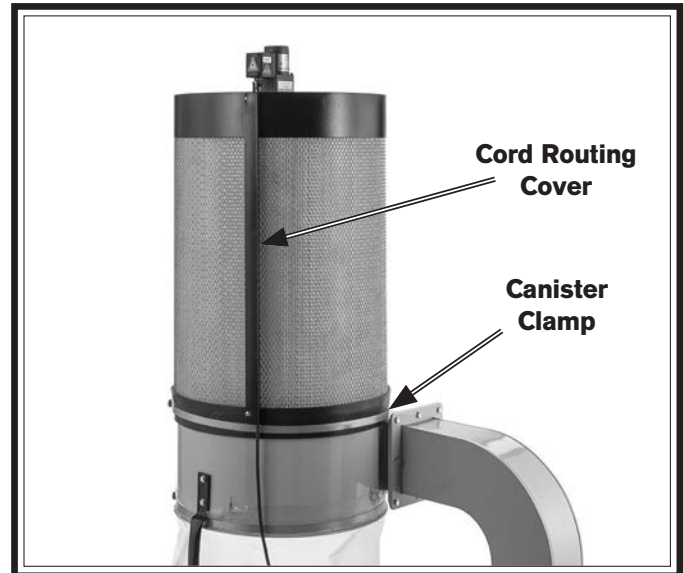

Figure 70. Canister filter components.
4. Pull end of motor cord out of cord routing cover (see **Figure 70**).
5. Release canister clamp (see **Figure 70**).